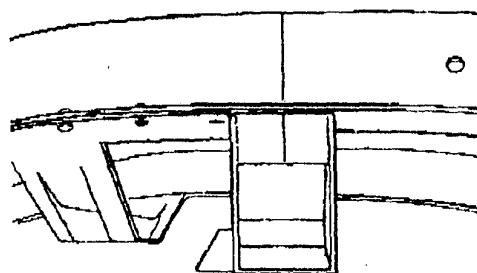
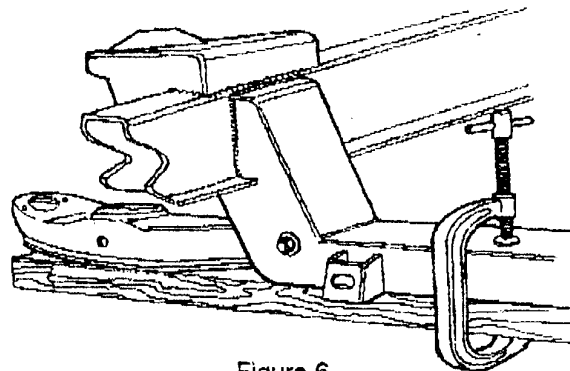
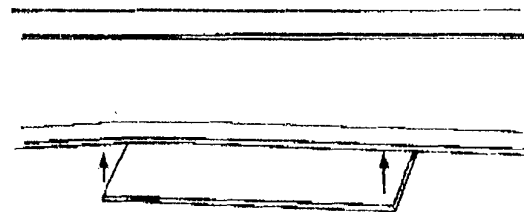

Figure 4
Figure 6
Figure 8
5. Next slip the crossmember up into the frame, center it on the scribed axle center line (Figure 4). If it does not fit, grind the sides of the crossmember until you can get the crossmember in place, as shown. Make sure the crossmember is seated fully on the underside of the actual frame lower surface and not the remaining flange of the old front crossmember section you trimmed out. Figure 6 shows this clearly. Tack weld in place, check location, then weld in place, welding all around both ends, top, sides, and bottom.
7. If you are using factory lower control arms and strut rods you will continue here. Use the lower control arm and strut rod for locating the rear strut rod supports and gussets. Using a 2 x 4 and a C-clamp, install the control arm as shown in Figure 8.
8. Install the strut rod onto the control arm. Now, assemble onto the strut rod the large rubber bushings, including the cupped washers, and the strut mount plate. Be certain to fully tighten the nut on the strut rod to its' fully seated position. (See Figure 6) There are two rubber bushing sets available; the standard replacement and the improved set. We recommend the improved set, as it provides more stability to the front suspension. The Pinto and Mustang strut rods are different lengths. We recommend the use of Pinto strut rods, as they are bent less than the Mustang strut rods. You will find that with either strut rod the strut rod plate does not line up with the bottom of the frame rail. The strut rod must be heated in the elbow area and bent outward. The rod is bent outward until the strut mounting plate lines up to the frame rail. You will find that because the Pinto strut rod is initially bent less and requires much less bending. Before welding the strut rod mounts to the frame, install the two reinforcement plates on the underside of the frame as shown in Figure 8. Position the plates so the strut rod mounts and gussets are approximately centered on them. Weld in place, all around.